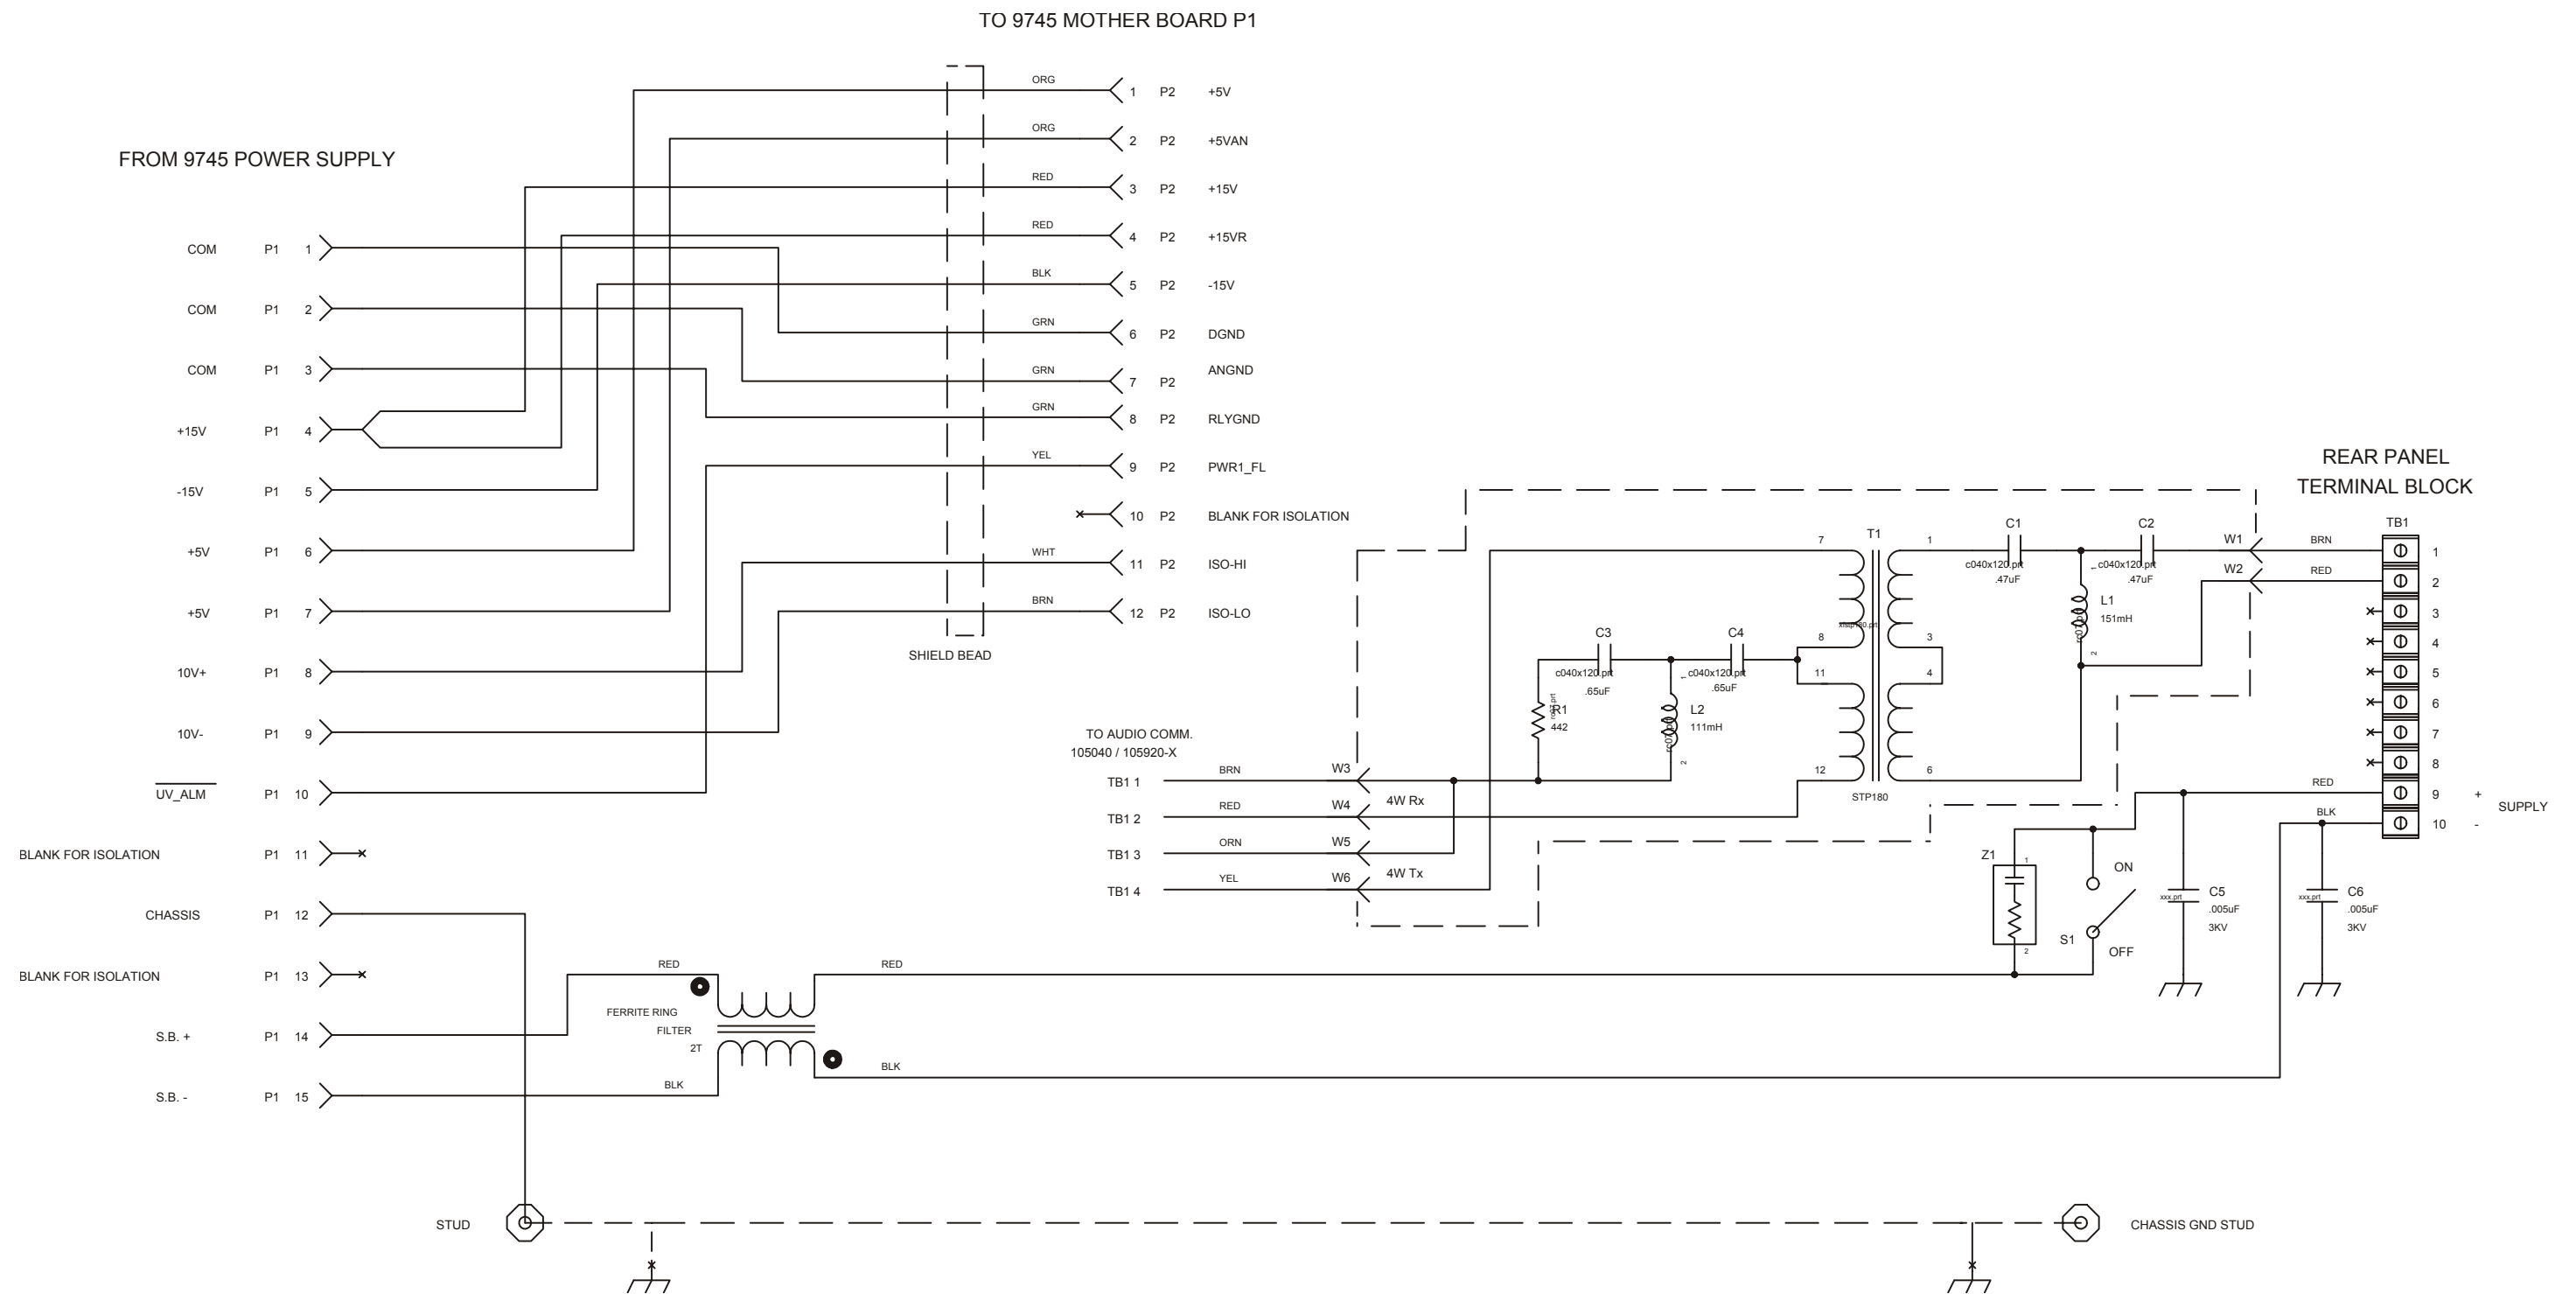

Figure 13-4. Schematic Diagram, 9745 Power I/O Filter/Hybrid Module (Drawing No. D-105154-3-D)
4. Figure 13-4. Schematic Diagram, 9745 Power I/O, Filter/Hybrid Module (Drawing No. D-105154-3-D)